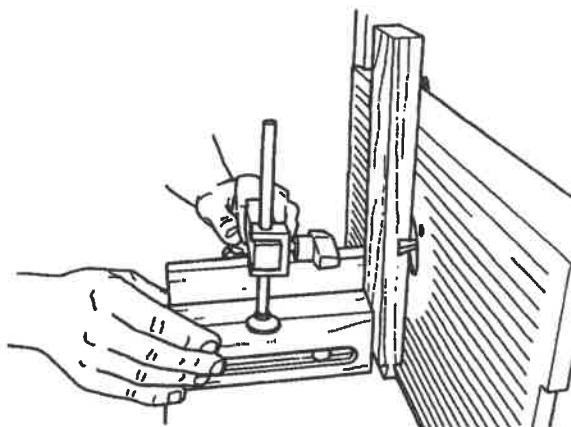

Fig. E-15
21. Install the sliding table jig on the miter gauge. Place the miter gauge/sliding table jig in the miter channel. See Fig. E-15.